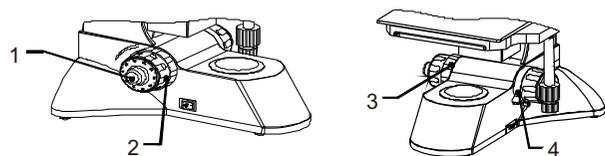

Fig.11
(5) The knob 4 is to lock the stage position of height; this function is making sure the long working distance of objective not to be touched with stage or simple. When the stage be locked in the preset position with turn the coarse, you can rapidly focus the image clear.
(6) The tension of the coarse focus control knob 2 is adjustable and preset at the factory for ease of use. If wish to adjust the coarse focus tension, turn the knob 3 to tension adjustment. Turn the wheel anticlockwise decrease the tension, and clockwise increases it, as indicated by the arrow in the figure 11.
- (1) The control knob 1 is for fine focusing, the control knob 2 is for coarse focusing. Turn the coarse focusing control knob 2 anticlockwise to lift the objective and clockwise to lower it. As shown Fig.11.
- (2) Turn the nosepiece 1 to make 10X objective into optical path (when it turns in place, the objective will snap automatically).
- (3) Turn the coarse focusing control knob 3 to lift the stage to the highest point, then observe and turn the coarse focusing control knob slowly to lower it, when a specimen image appears in the field of view, stop turning the coarse focusing control knob.
- (4) Turn the fine focusing control knob 2 for fine focusing to make the specimen image clear.